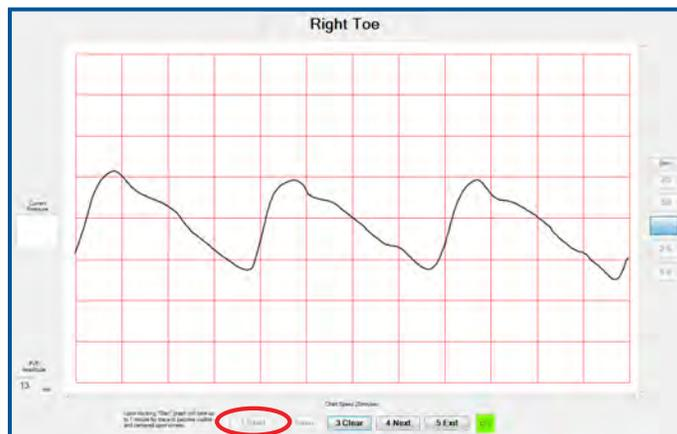

FIGURE 1.28 - Right Toe - “Save” Button
34. To record the amplitude (height measurement of the waveforms), click on the lowest point and then on the highest point of one of the waves. The amplitude will display in the bottom left “PVR Amplitude” box. Record the waveform amplitude and click “Save”, or press 2 (Figure 1.28).